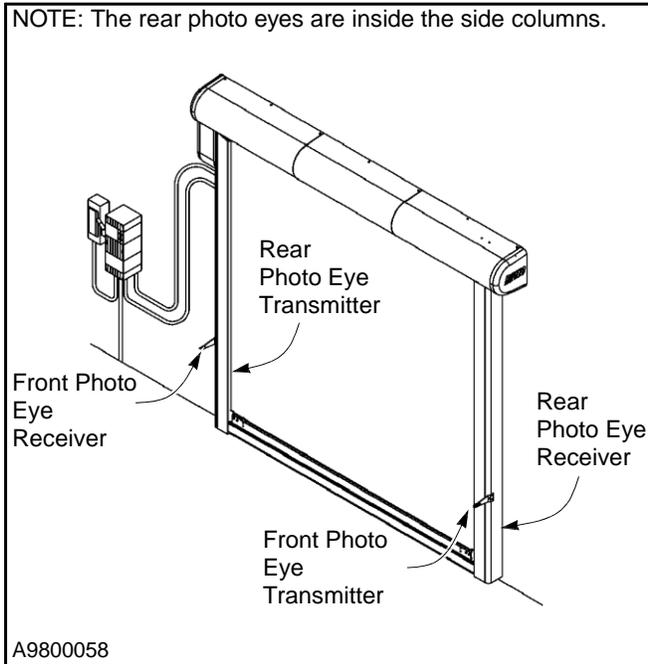

Figure 23
*NOTE: Photo eyes and mounting hardware are shipped in the small parts carton. The two sets of photo eyes provided MUST both be properly installed. (See Figure 23)*